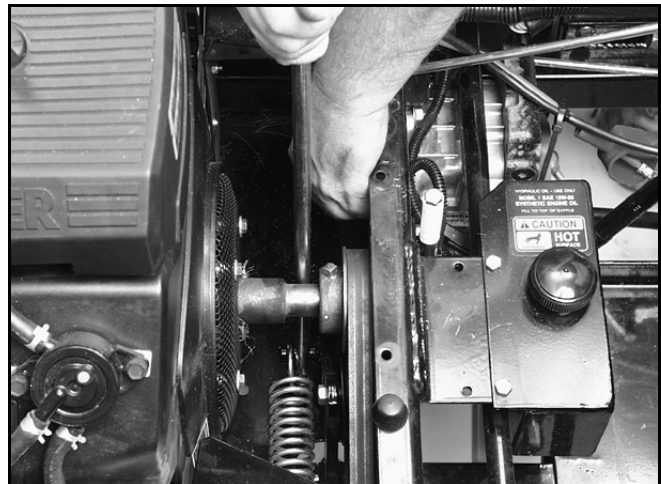

Figure 59
1. Using a suitable pry bar, release the spring tension on the idler pulley and remove the drive belt from the pump pulley (Figure 59).